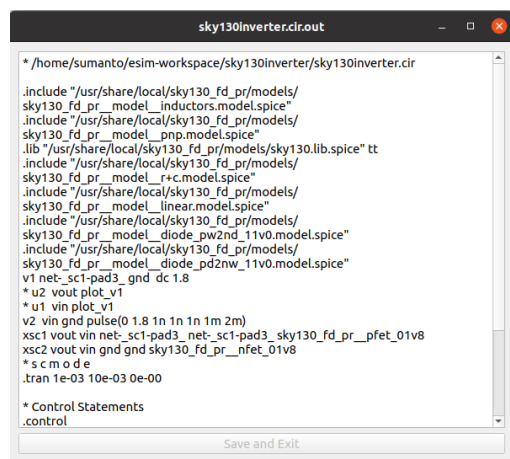

Figure 9.9: Manually Editing the Netlist
- If something needs to be added manually, Click on the ***Project.Name.cir.out*** file in the left **Project Panel** and the file can be edited manually. Refer Fig. 9.9 as an example.